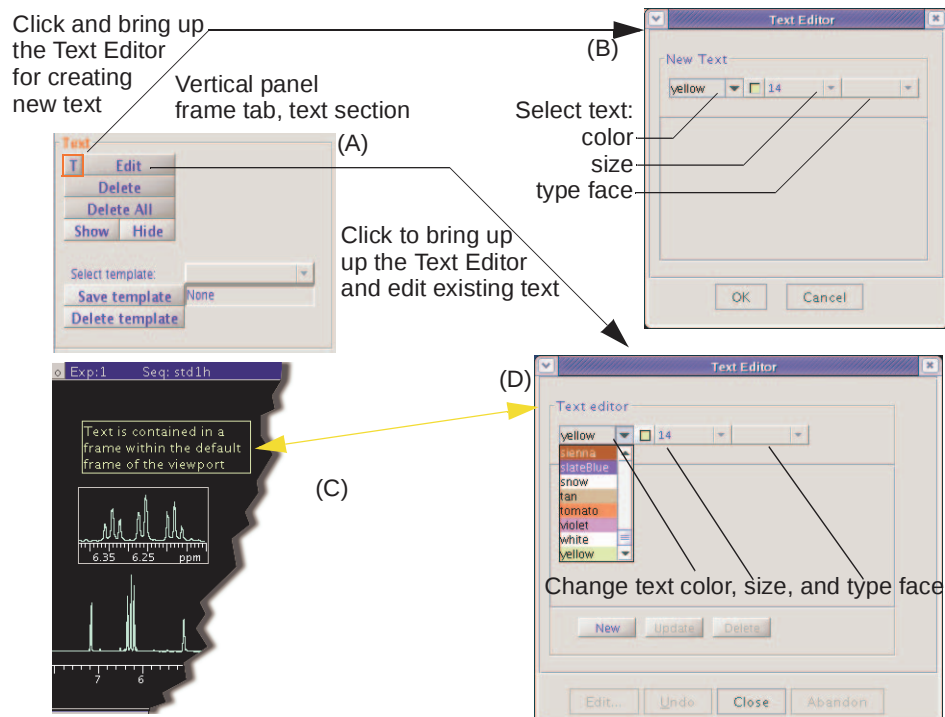

Figure 113. Text Panel Controls and Text Editor
Text is placed into a text frame within the default frame of the active viewport using the text insert tools, see Figure 113. Select, move and resize in the same way as an inset or default spectrum frame. The content of each text frame is defined by a file.
- Click on the **Text** tab, see Figure 113\(A\).
- Click on the **T** button, see Figure 113\(A\).
- The Text Edit window, see Figure 113\(B\), appears.
1. **Double click** inside the frame to make the frame active; see Figure 113(C).
2. Click on the **Text** tab; see Figure 113(A).
The Edit Text window is displayed; see Figure 113(D).
1. **Double click** inside the frame to make the frame active, see Figure 113(C).
The Edit Text window is displayed, see Figure 113\(D\).